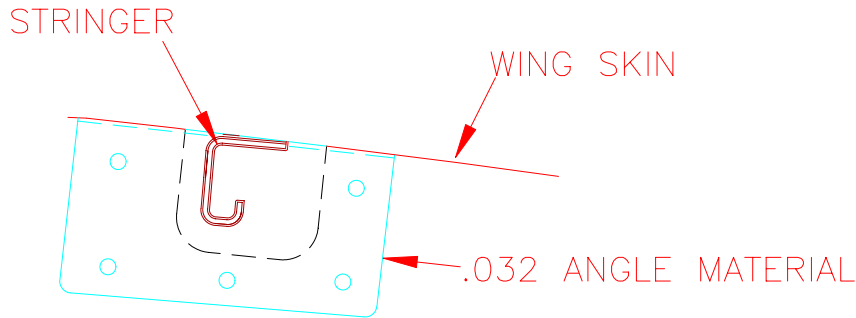

Figure 8.22.4
5) Where the Stringers pass through the outboard Main Root Rib , cut an angle to the shape as in Figure 8.22.4.